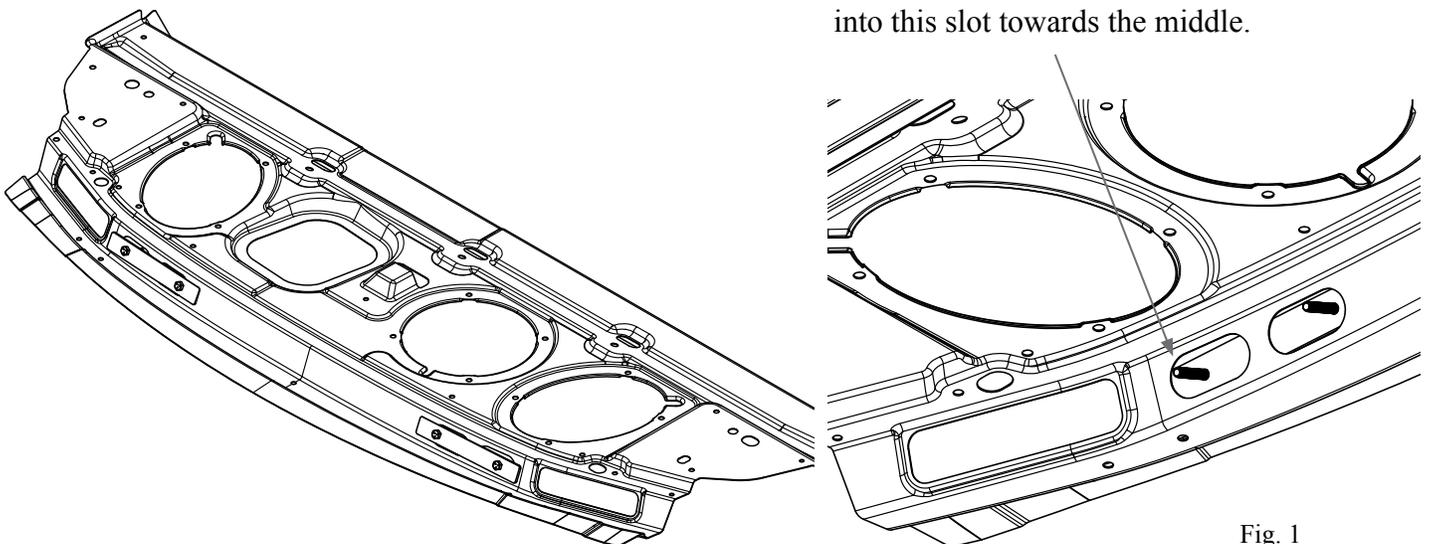

Fig. 1
A. Slide the two brackets, 3GTM5617-01, into the correct slots located under the rear deck. Slide one end of the bracket in first through the outer hole towards the middle of the trunk. Pull the studs of the bracket through the slots. Refer to Fig. 1 for location of brackets.